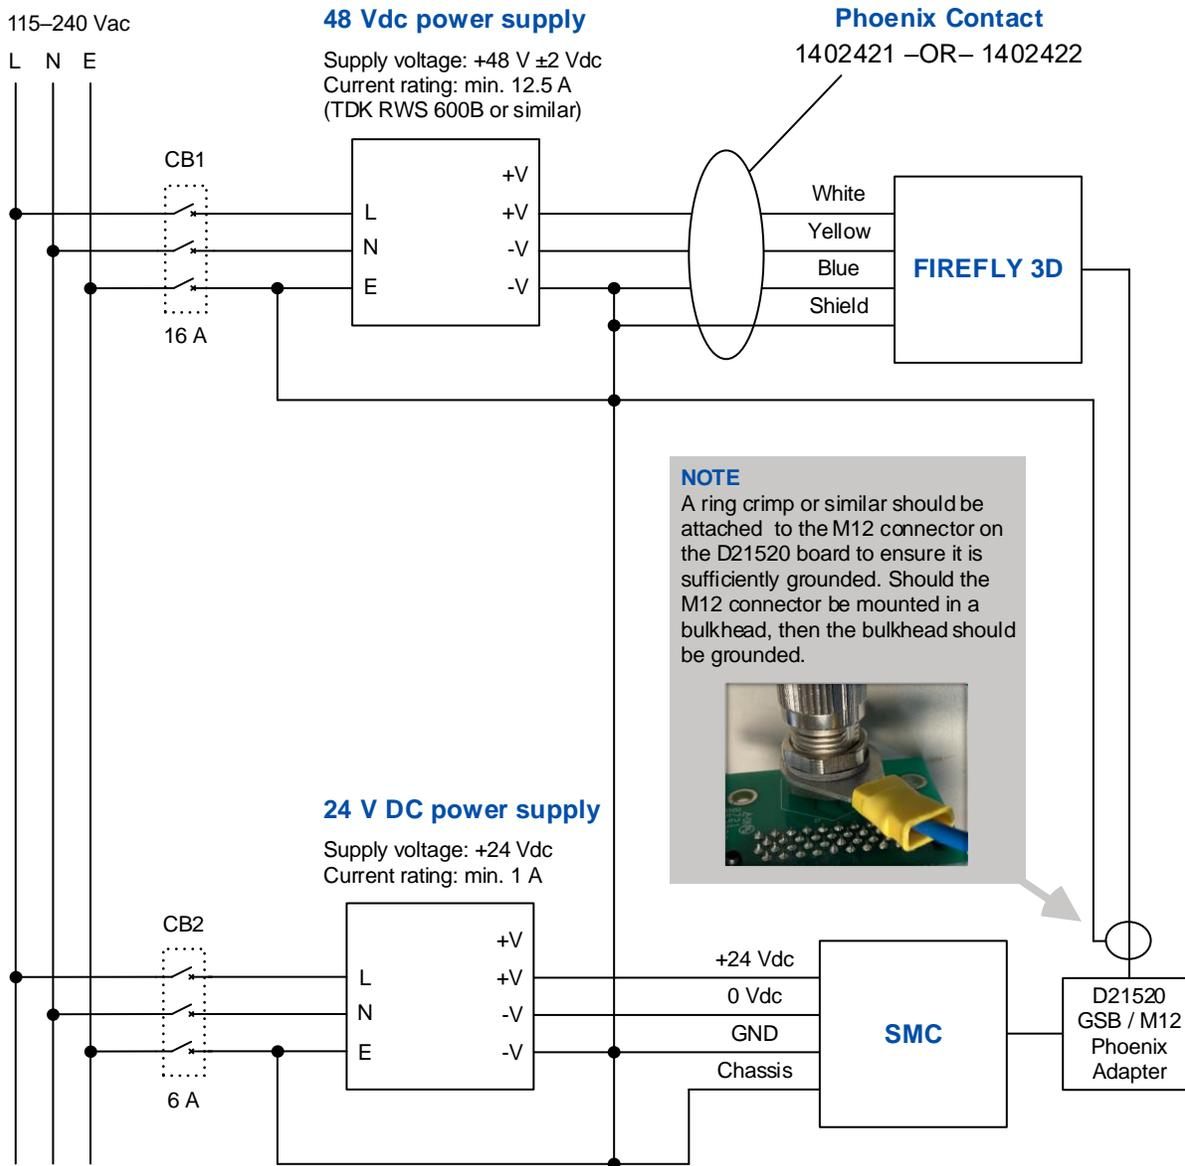

Figure 6: Recommended wiring and grounding scheme
- With the grounding scheme implemented as per Figure 6 on page 40 it is recommended that the SMC and Firefly3D are powered up at the same time.